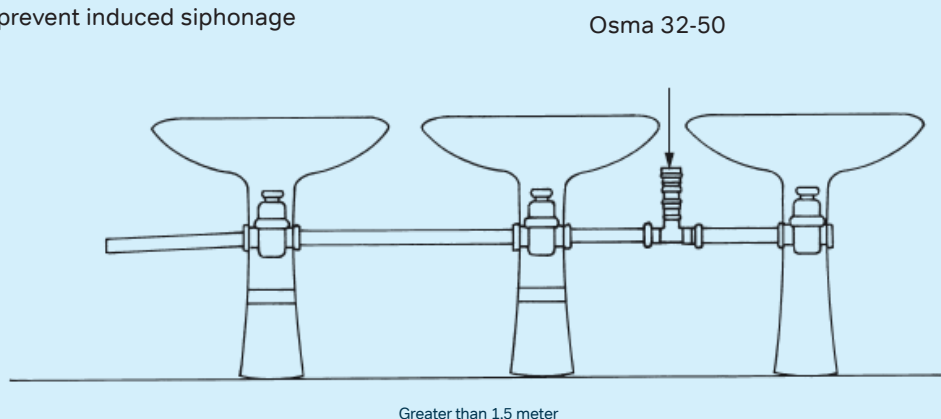

Figure 5: Installation Example (a) and (b)
- In order to prevent water from leaking back from the water siphons, an air admittance valve must be used at a distance of 1.5 meters from the siphon. (Figure 5)